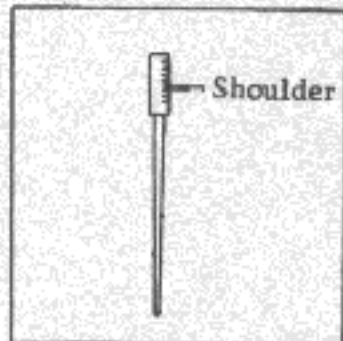

Fig. EF-76 Jet needle
3. To remove these components, place the suction chamber and suction piston on a flat work bench so that the inside of the suction chamber and the sliding part of the suction piston are not damaged. Be extremely careful not to bend the jet needle on the lower part of the suction piston. (See Fig. EF-76.)